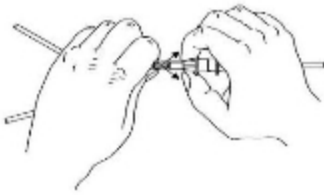

Figure 3
7. Break solution frangible (green) by grasping the tubing above the top of the frangible and pulling forward and backward until the frangible separates. See Figures 3 and 4.